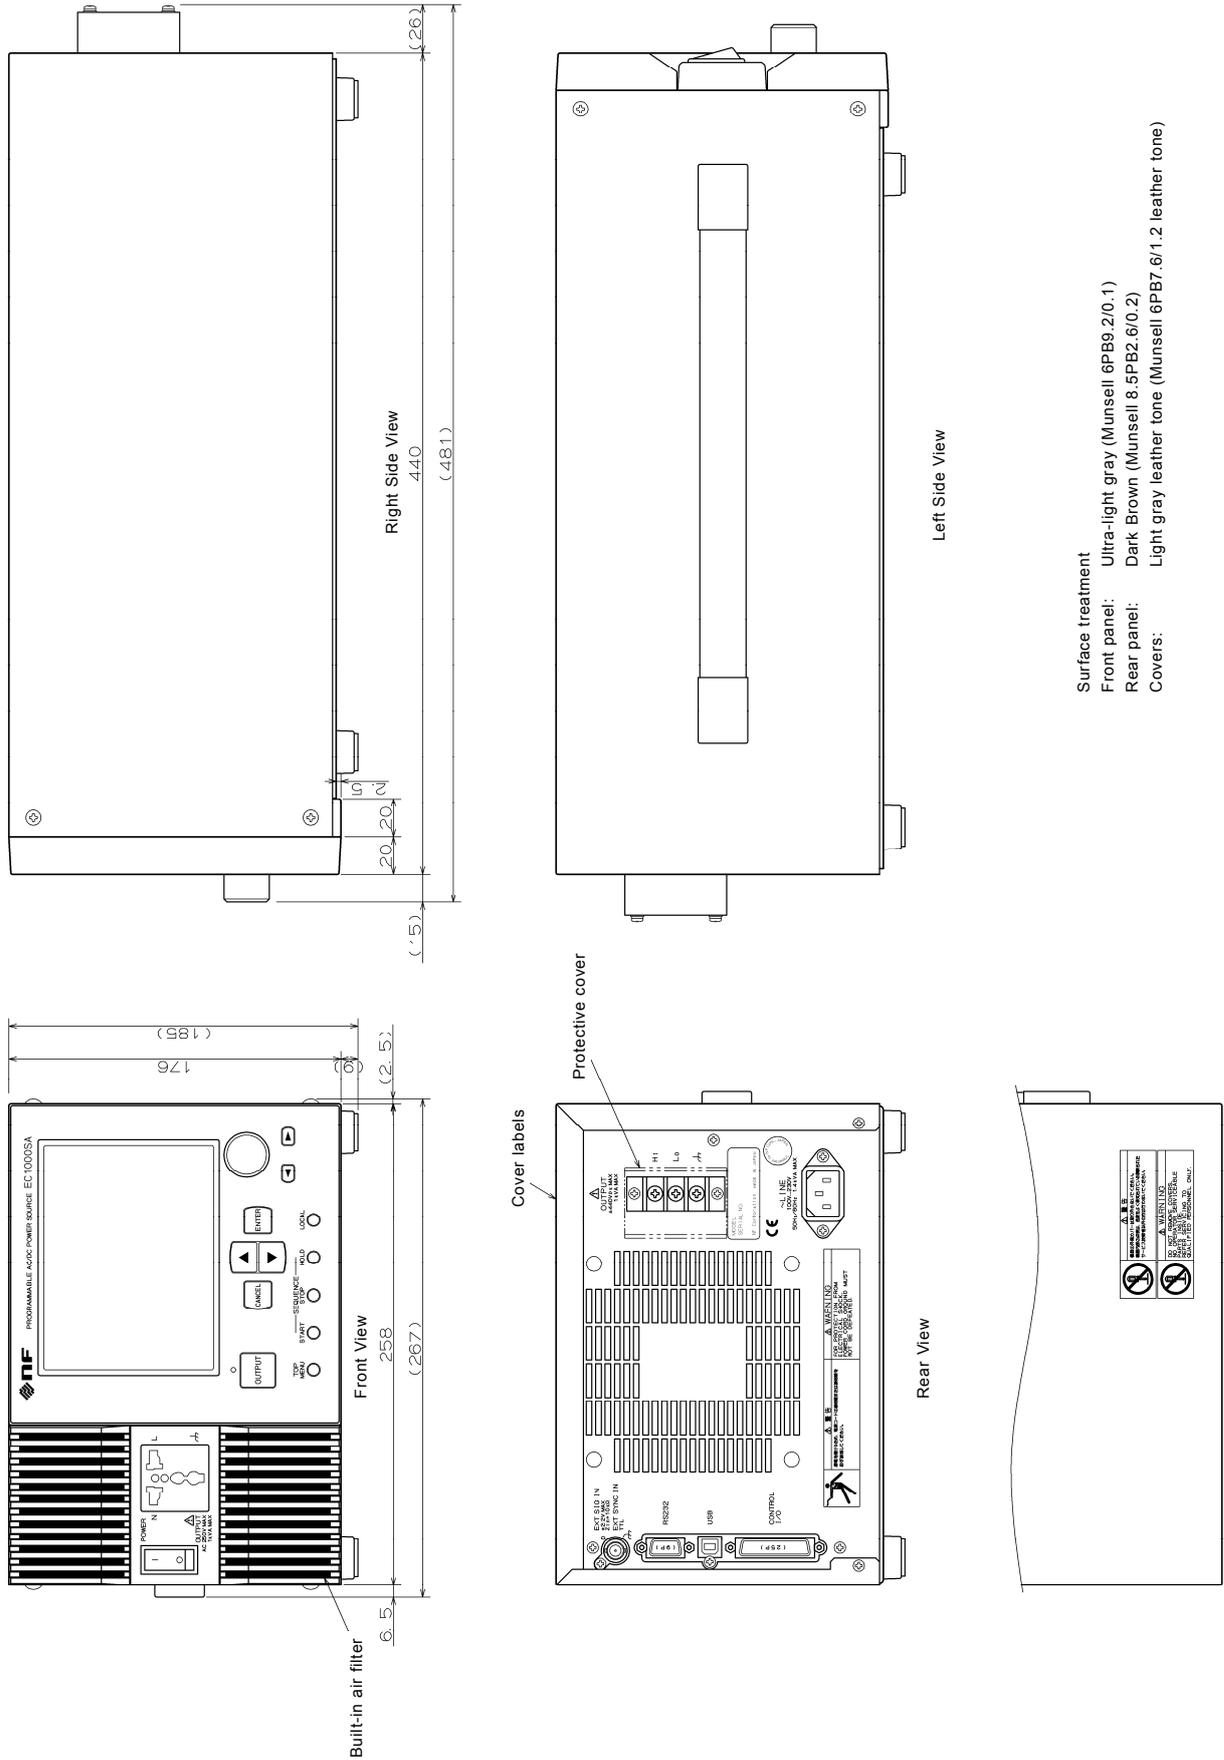

Figure 1-2. External Dimensions
**Figure 1-2** shows the external dimensions.